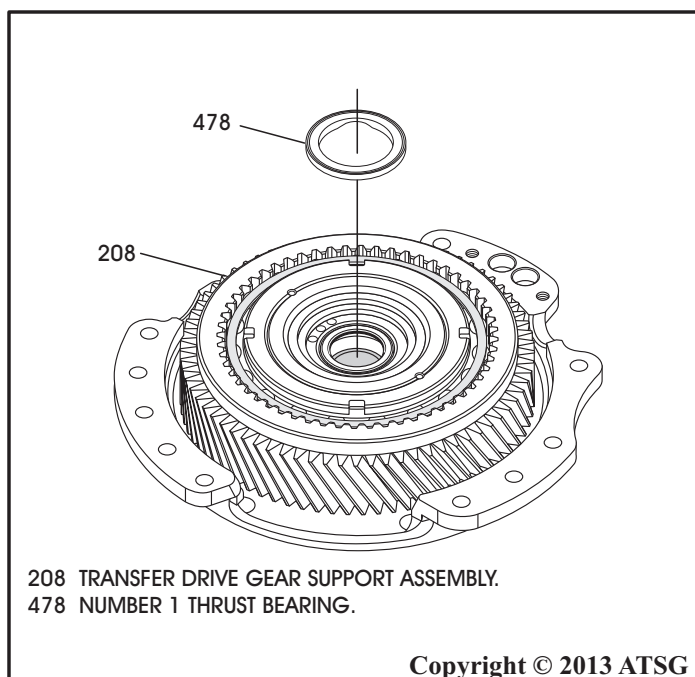

Figure 200
**Note:** The drive sprocket support assembly was previously installed with the converter housing assembly (See Figure 200).